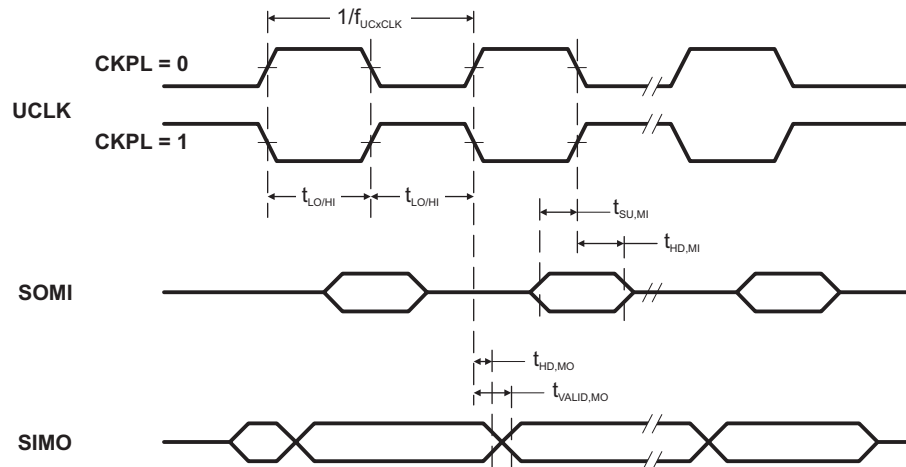
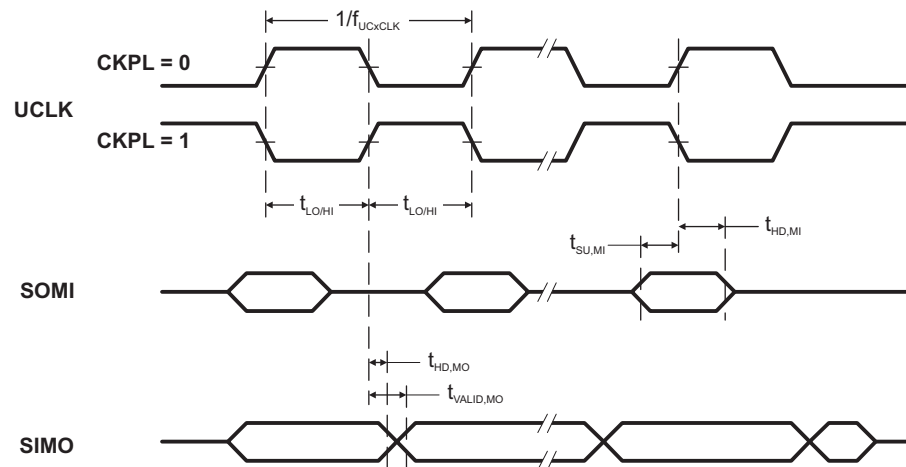

Figure 5-11. SPI Master Mode, CKPH = 0
Figure 5-12. SPI Master Mode, CKPH = 1
(see Note ⁽¹⁾, Figure 5-11 and Figure 5-12)
- (2) Specifies the time to drive the next valid data to the SIMO output after the output changing UCLK clock edge. Refer to the timing diagrams in Figure 5-11 and Figure 5-12.
- (3) Specifies how long data on the SIMO output is valid after the output changing UCLK clock edge. Negative values indicate that the data on the SIMO output can become invalid before the output changing clock edge observed on UCLK. Refer to the timing diagrams in Figure 5-11 and Figure 5-12.
(2) Specifies the time to drive the next valid data to the SOMI output after the output changing UCLK clock edge. Refer to the timing diagrams in Figure 5-11 and Figure 5-12.
(3) Specifies how long data on the SOMI output is valid after the output changing UCLK clock edge. Refer to the timing diagrams in Figure 5-11 and Figure 5-12.